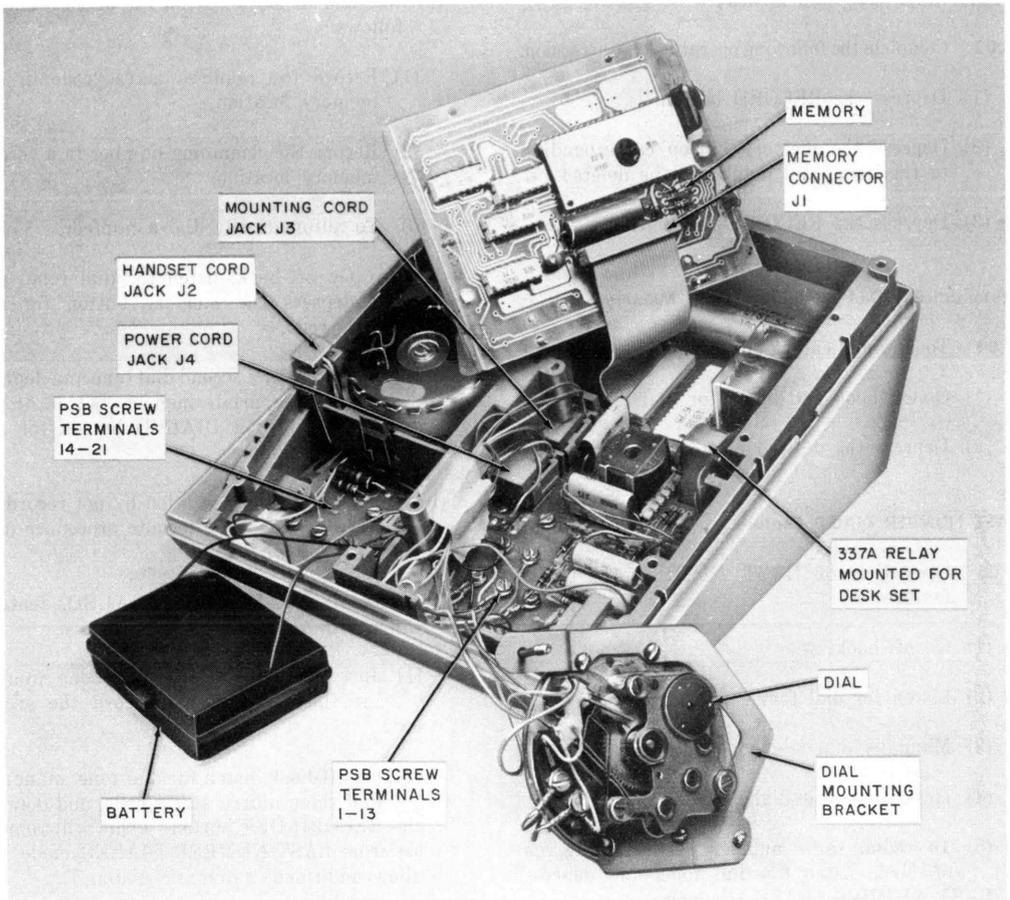

Fig. 6—960A01M Chassis and Lower Housing With Dial, Memory, and Battery Laid Aside, and Shield Removed
- (3) Rotate the right edge of the Memory upward.
- (4) Disengage the connector at the Memory (Fig. 6) by pulling it perpendicular to the circuit board.
- (5) Replace the Memory by engaging the connector. The connector is keyed, one position is filled and should fit over the vacant position in the row of pins. The cable should not be twisted.
- (6) Tighten the four captive screws.
- (7) Replace the shield and faceplate.
- (8) Test per 3.12.
- (9) Place the old Memory in shipping container of the new Memory (carton 900314535), affix a defective label and return to the repair location.
- (8) Remove dial mounting bracket from the dial (Fig. 6).
- (9) To install a new dial, reverse procedure.
- (10) Test per 3.12 (7) and (8).